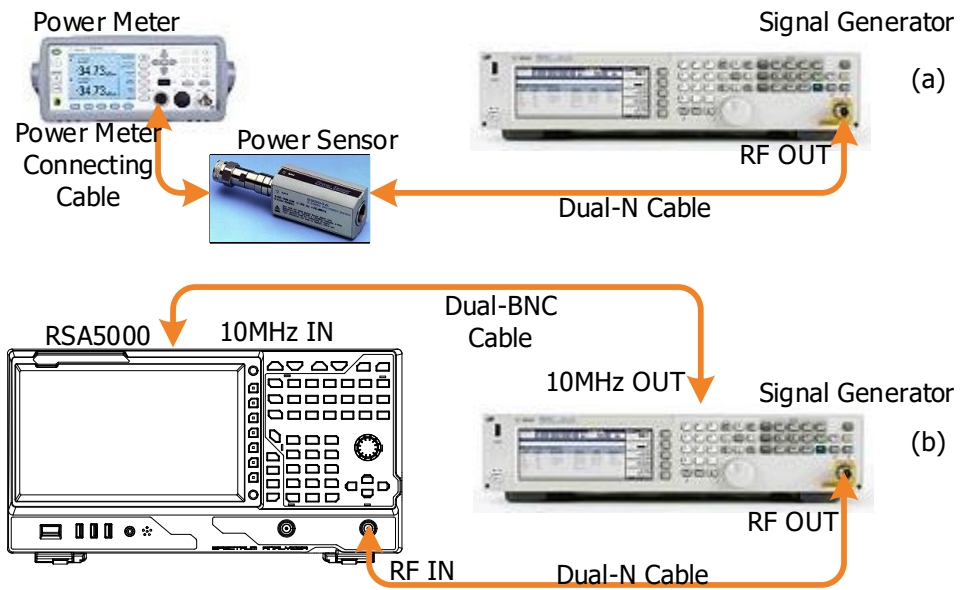

Figure 2-3 Absolute Amplitude Accuracy Test Connection Diagram
2. Connect the output terminal of the signal generator with the power sensor, as shown in Figure 2-3 (a).
6. Connect the output terminal of the signal generator with the RF input terminal of the spectrum analyzer, as shown in Figure 2-3 (b).